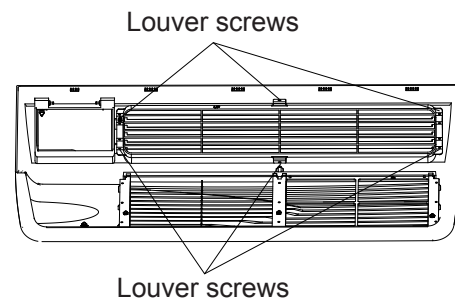

Fig. 17 – Backside of Front Panel
2. Remove louver screws that hold louver insert in place (from back side of front panel). See Fig. 17.